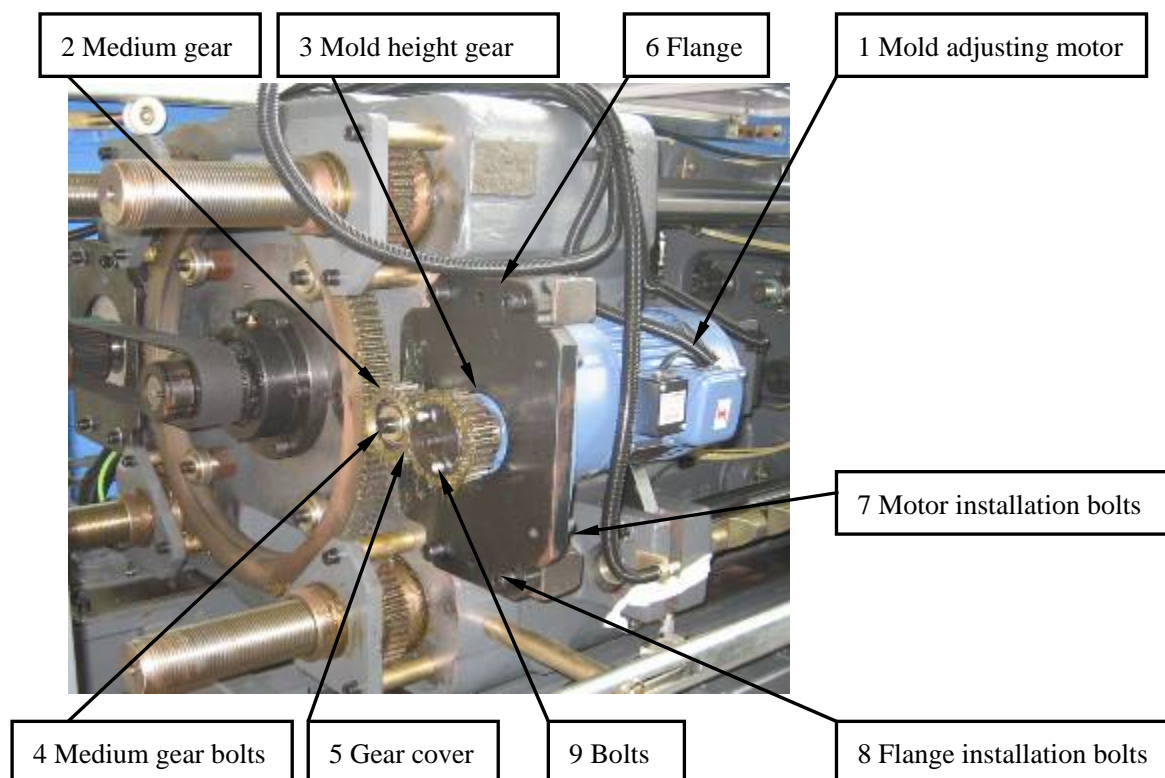

Fig 2.2.1(8) Mold height adjusting equipments
About assembly codes, please see Fig 2.2.1(8) mold height adjusting equipments
- ① Screw off bolts9 (3 pieces);
- ② Take down gear cover5 and mold height Gear3;
- ③ Screw off flange installation bolts8 (4 pieces);
- ④ Place motor1 and flange6 on ground carefully;
- ⑤ Dismantle motor installation bolts7, then separate motor from flange.
About assembly codes, please see Fig 2.2.1(4) plastification unit.
① Install motor installation bolts7 (4 pieces)
② Install flange connect bolts8 (4 pieces)
About assembly codes, please see Fig 2.2.1 (6) ejector unit.
About assembly codes, please see Fig 2.2.1 (7) injection unit.